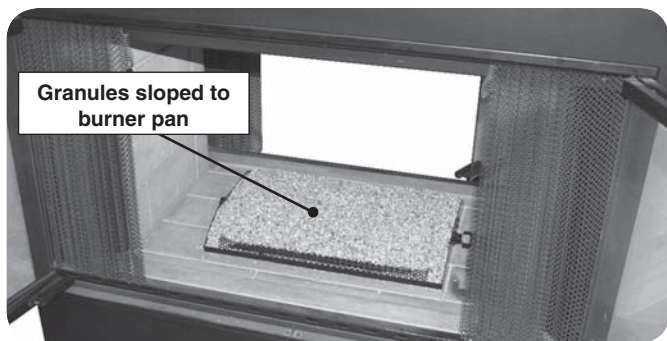

Fig. 8-3
3. Pour the remainder of the granules onto the separation grating, filling the pan. **Avoid spilling the granules on the pilot kit (if equipped).** Slope the granules at the same angle as the burner pan. This is important to ensure quiet lighting and even flame distribution (Fig. 8-3).